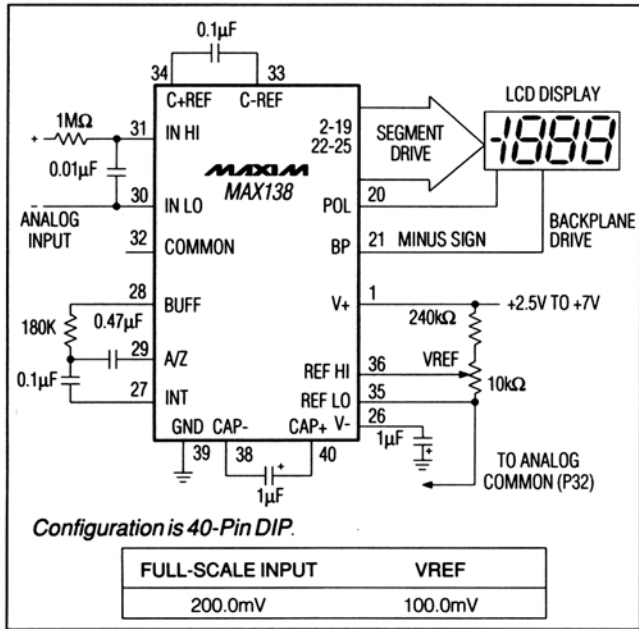

Figure 1. MAX138 Typical Operating Circuit
(V+ = +5V; TA = +25°C; test circuit of Figure 1, unless otherwise noted.)
**Note 4:** Test condition is VIN applied between pin IN HI and IN LO through a 1MΩ series resistor as shown in Figures 1 and 2.
**Note 5:** 1MΩ resistor is removed in Figures 1 and 2.
Figures 1 and 2 show the typical operating circuit for the MAX138/139/140 when powered by a single +5V supply.
The most common reason for noisy readings, particularly in engineering labs, is a noisy input signal. The 1MΩ/10nF input filter shown in Figures 1 and 2 will significantly reduce high-frequency noise, and the capacitor value can be increased to further attenuate 50/60Hz.